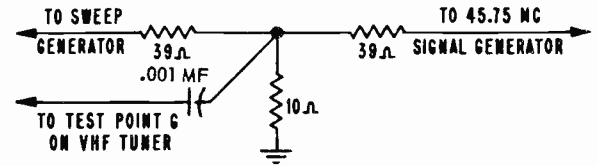

Fig. 4 MATCHING NETWORK
11. Disconnect generator and connect sweep generator to "G" on VHF tuner through matching network in Figure 4.